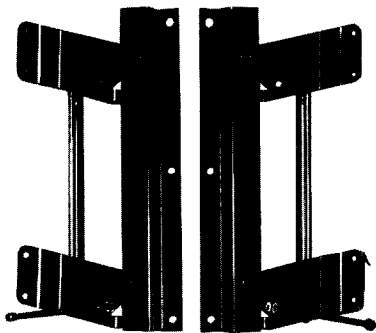

Fig. 10 Left and Right Shutter Mechanisms
Install left and right shutter mechanisms (Fig. 10) with three (3) .25" (6.35mm) nuts, three (3) lock washers, and flat washers on each side.